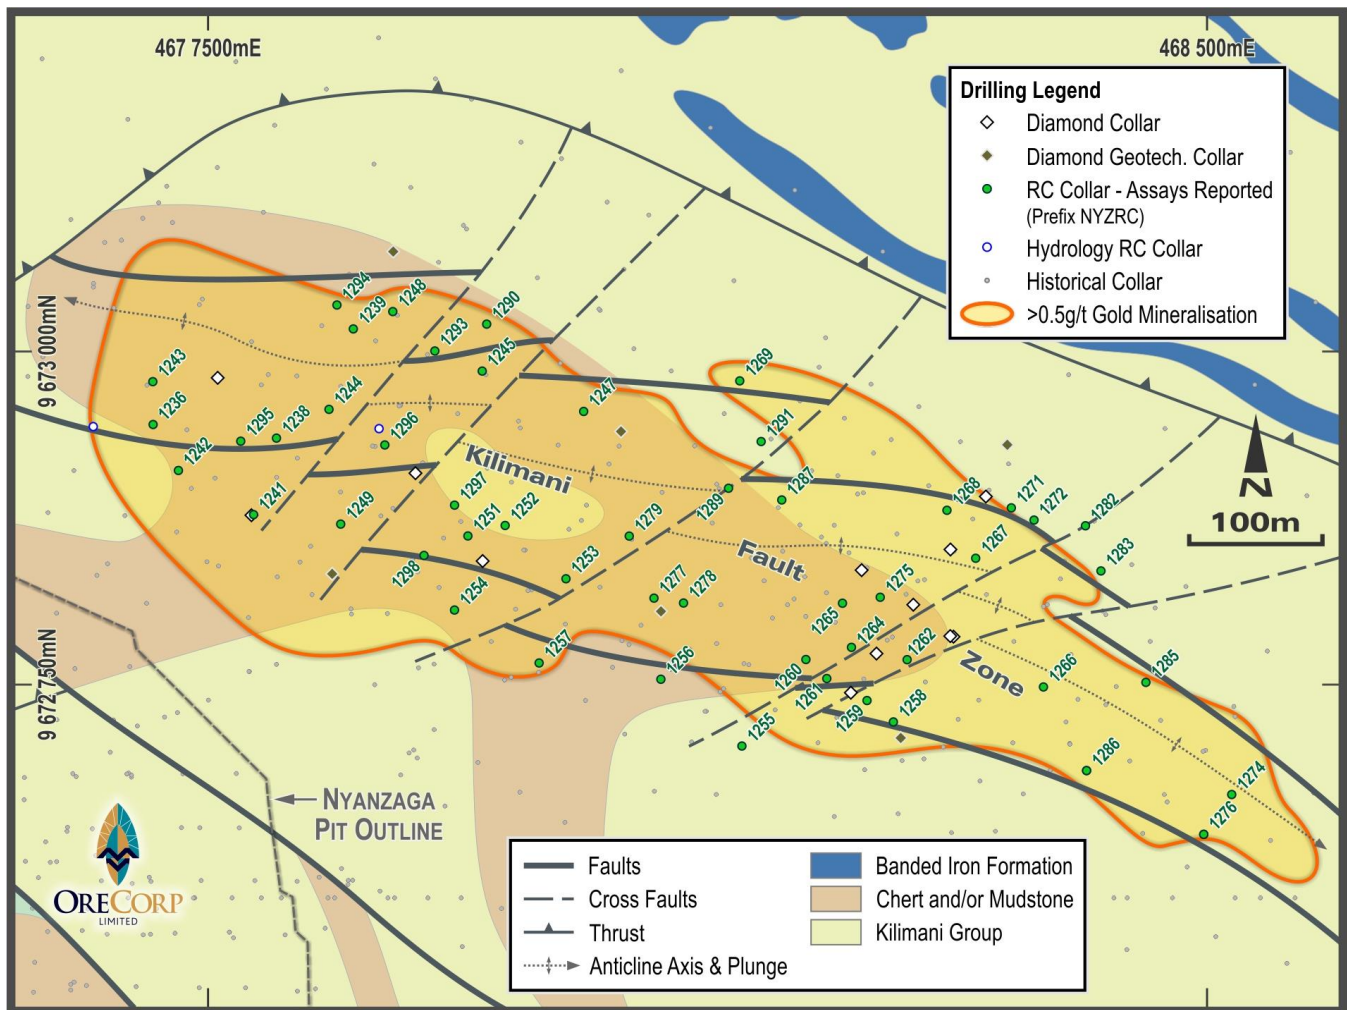

Figure 3: Kilimani Deposit Drilling and Structure over Geology
Kilimani shows several features similar to the adjacent Nyanzaga deposit including alteration within preferential lithologies and within steeply dipping fault zones along the flank of an anticlinal fold axis (**Figure 3**). It is believed the two systems are linked and that Kilimani represents a higher level of emplacement of gold mineralisation.
A drill program comprising 51 RC resource holes for 6,779m, 2 RC hydrological holes for 230m, 12 diamond (DD) geological holes for 2,086m and 6 DD geotechnical holes for 750m was recently completed (**Figure 3**).